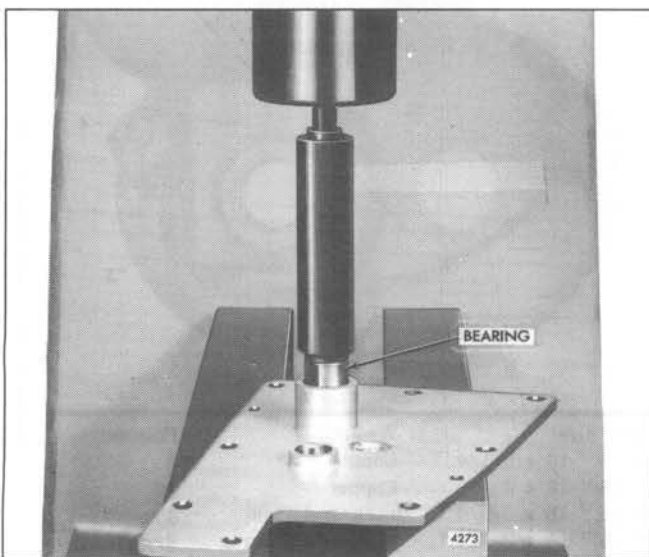

Fig. 25 – Installing Bearings in Governor Cover
- b. Place the correct end of the bearing installer J 21068 in the bearing (Fig. 25). Installer J 21068 has a pilot on each end; one end is for the speed control shaft upper bearing and the other is for the stop shaft bushing or upper bearing. Then, press the bearing into the bore until the stop on the installer contacts the cover boss.